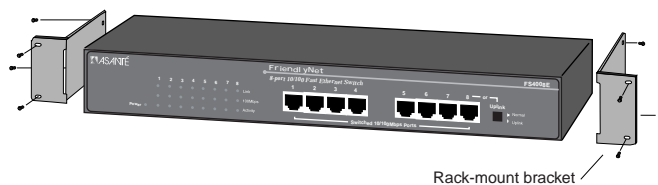

Figure 2-10 Attaching mounting brackets to the FS4008E
- 1 Attach the two mounting brackets (supplied) on each side of the chassis. See Figure 2-10.